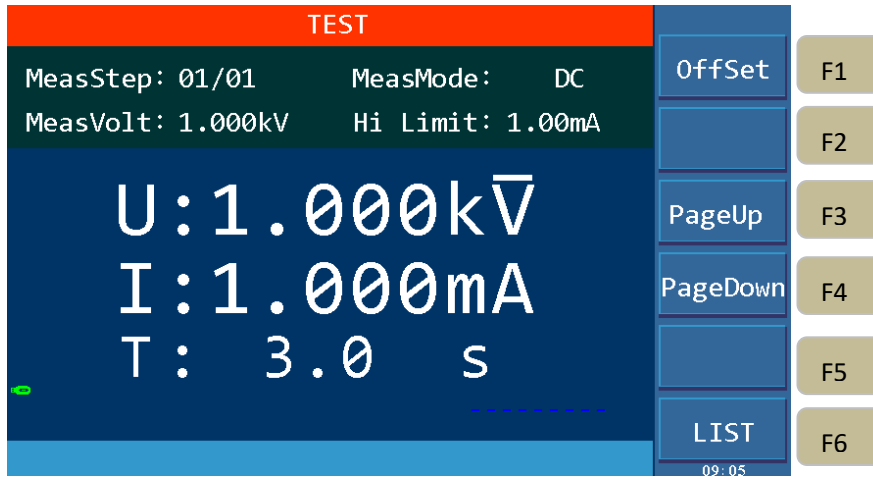
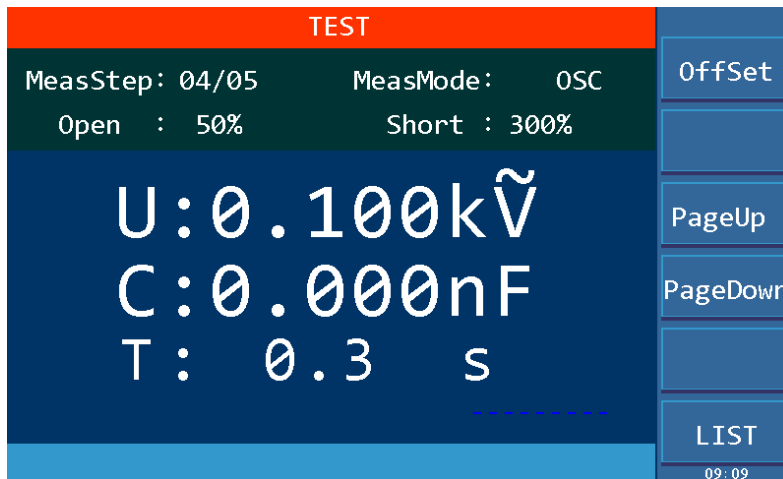

Figure 4-17.2 DC Test Interface
Figure 4-17.4 OSC Test Interface
2. Press F1 to offset. Press F3 and F4 key to display the main parameters of different test steps as shown in Figure 4-17.2, Figure 4-17.3, Figure 4-17.4 and Figure 4-17.5. F6 is LIST interface.